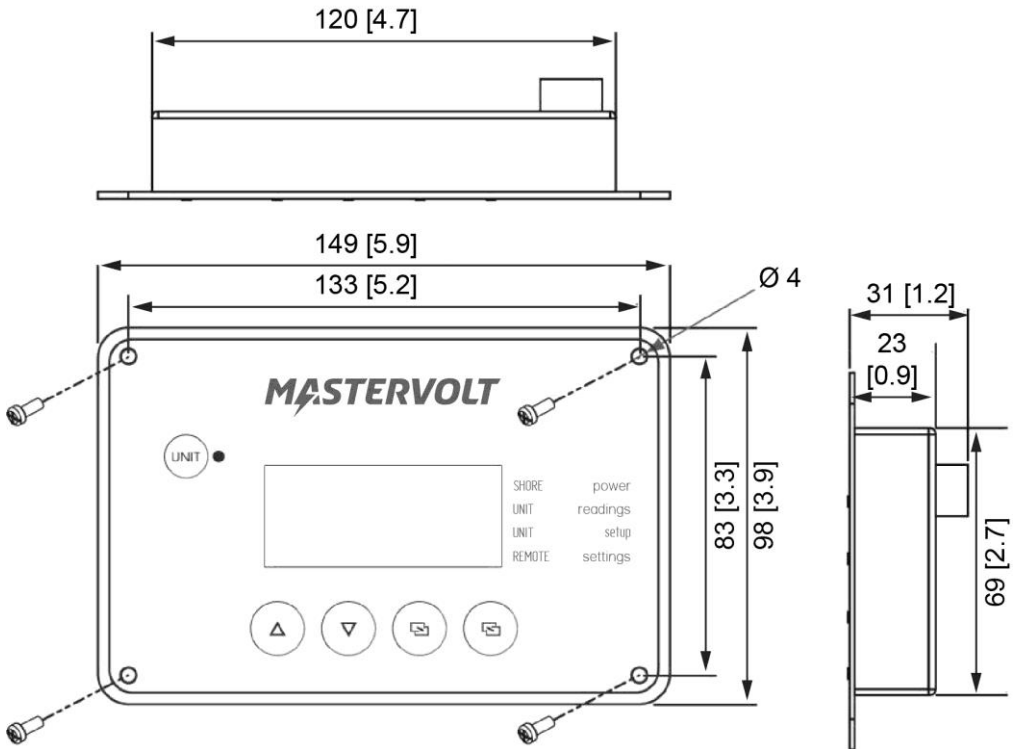

Figure 3. PowerCombi Remote Control Dimensions in mm [inches]
- Step 1.** Cut an opening in the mounting surface according to the dimensions given in Figure 3.